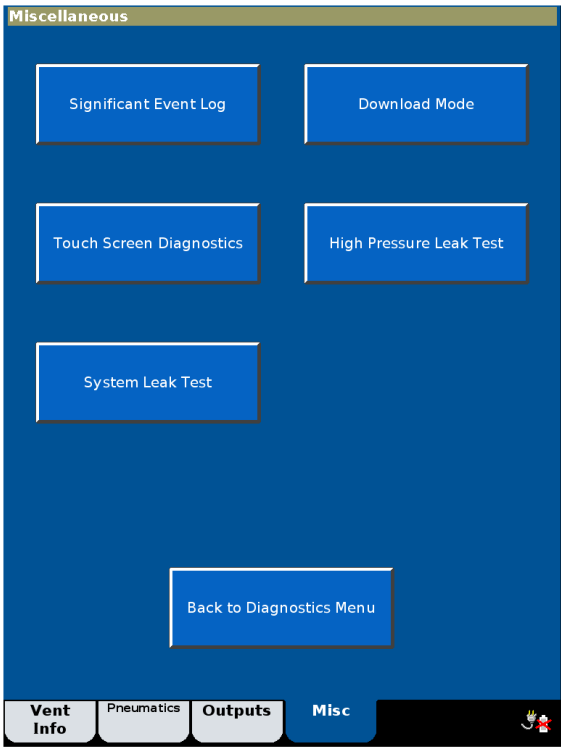

Figure E-11: Miscellaneous screen
- 2. The Miscellaneous screen opens (Figure E-11). Select Significant Event Log.